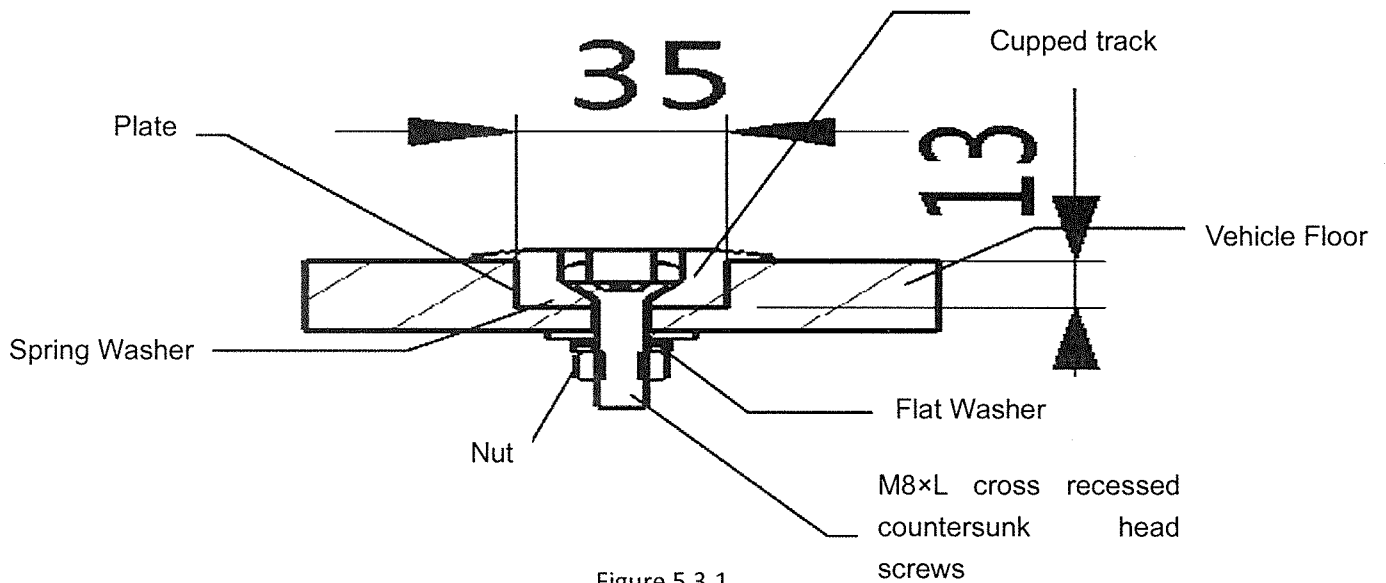

Figure 5.3.1
- Put the plate, plat washer, spring washer and hexagon nut on screw orderly. (Refer to figure 5.3.1)